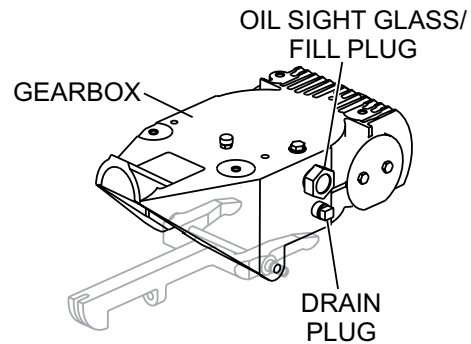

Figure 16. Gearbox
1. Determine if the gearbox oil is low by removing the oil plug located on the side of the gearbox. (Figure 16) This plug will be marked by the "check" decal. The correct level of the lubrication oil should be to the bottom of the fill plug.